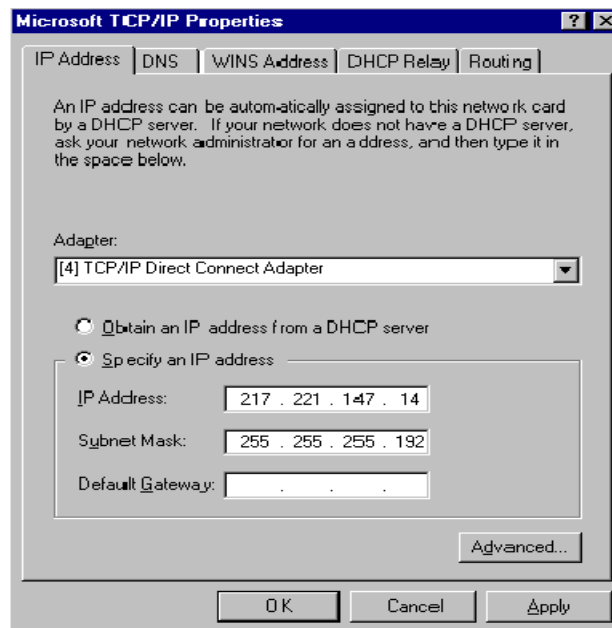

Figure 6-13. Assigning an IP Address to the ESCON Adapter
11. Enter an IP Address and Subnet Mask; defining the address that the mainframe will use to communicate with the Netfinity server Figure 6-13). Note that the mainframe IP address and this address must be in the same network (subnet). There is generally no need to enter a Default Gateway since TCP/IP Direct Connect is a point-to-point connection. However, in some environments it may be necessary to enter the mainframe IP address as the default gateway.